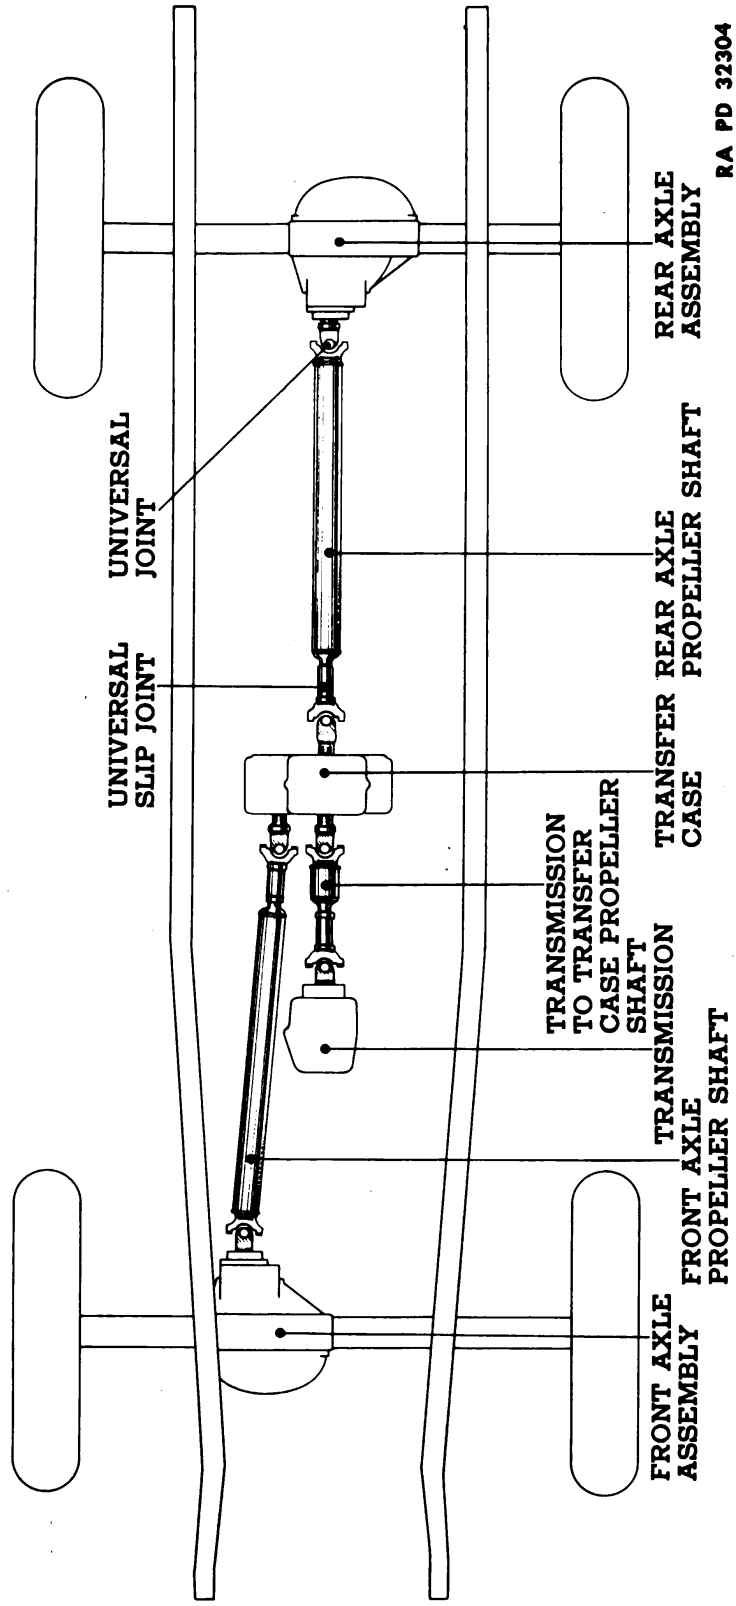

Figure 79—Propeller Shaft Drive Line
a. **Description (fig. 79).** The propeller shafts are of tubular construction, and are used to transmit the power from the transmission to the transfer case, and from the transfer case to the front and rear axles. Needle bearing universal joints are used at each end of the propeller shafts.